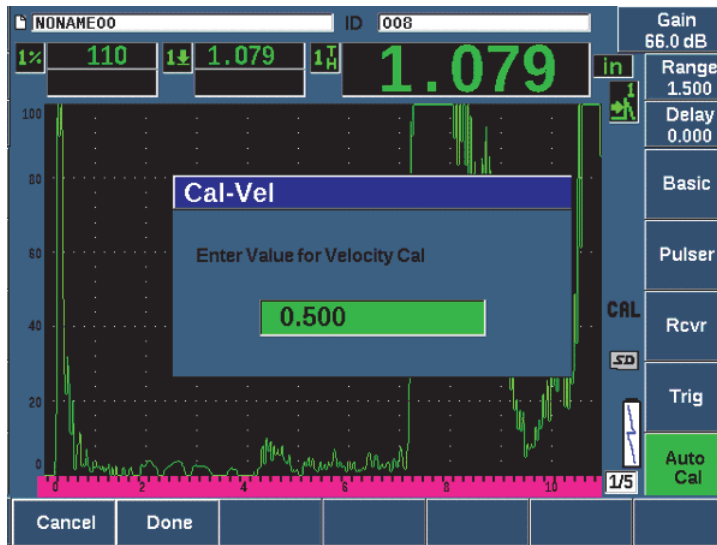

Figure 9-13 Entering the Velocity Cal thickness value
15. Adjust the value to match the known thickness of the gated indication (0.500 in. in this example), and then choose **Done** to complete the calibration process (see Figure 9-13 on page 173).